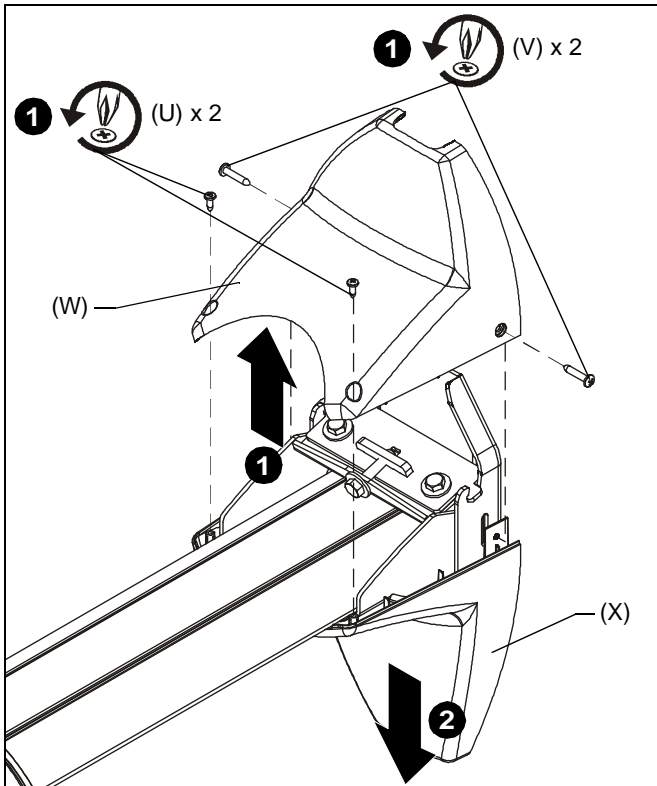

Figure 15
1. Remove two #8 x 1/2" Phillips pan tapping screws (U) and two #10 x 1" Phillips pan tapping screws (V) to free top cover (W) and expose pitch adjustment screw. (See Figure 15)
2. Remove lower cover (X) from WMA1S. (See Figure 15)